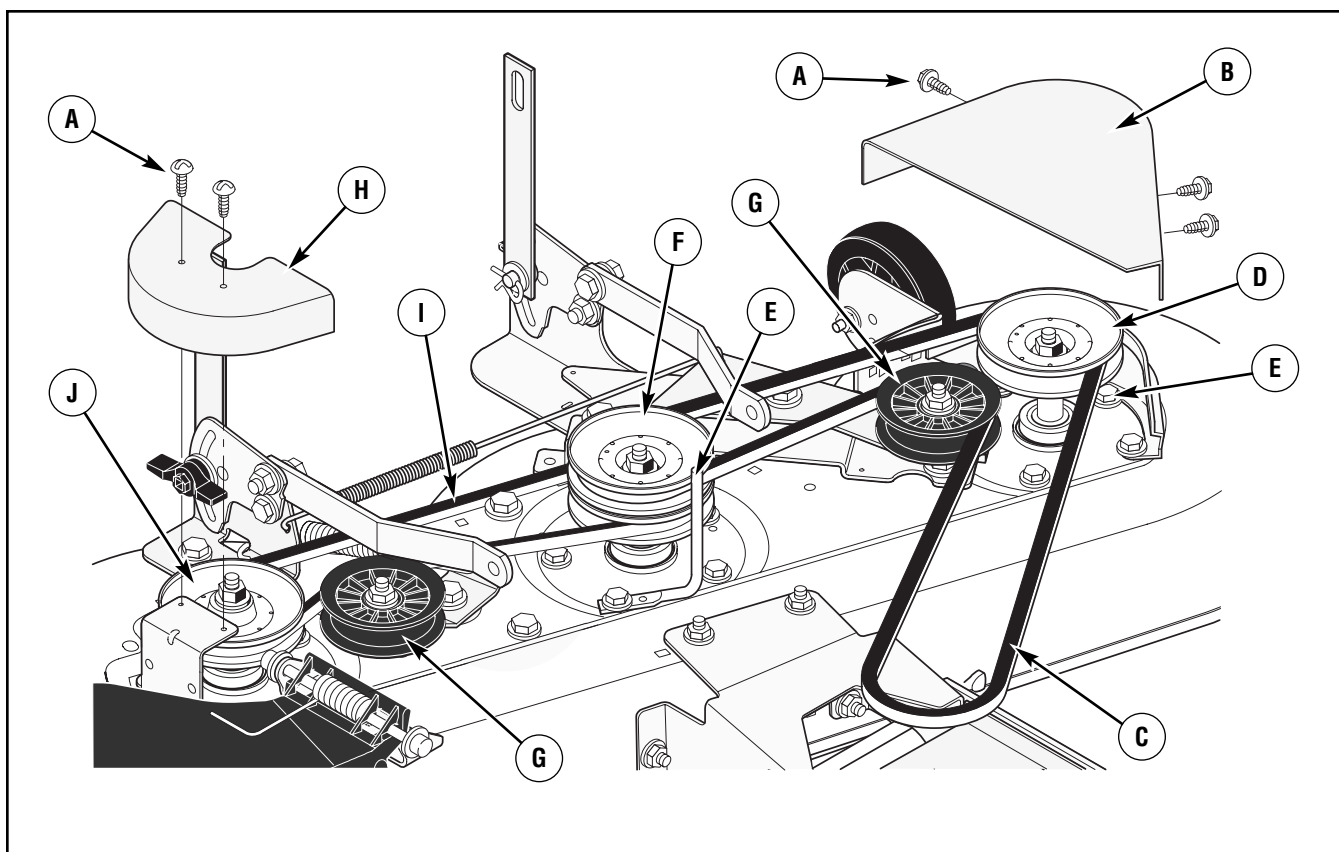

Figure 43: Mower drive belt assembly (46 & 52" models)
2. Remove the three **screws** from the **left pulley cover**. Remove the **pulley cover** (Figure 43).
2. Remove the **primary mower drive belt** from the **stack pulley** (Figure 43).